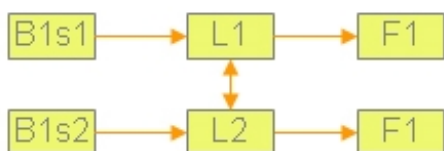

Figure 2
- The functional channel is represented by the magnetic switch device (B1) that correspond to the input part by means of two switches s1 and s2 (see figure 2).